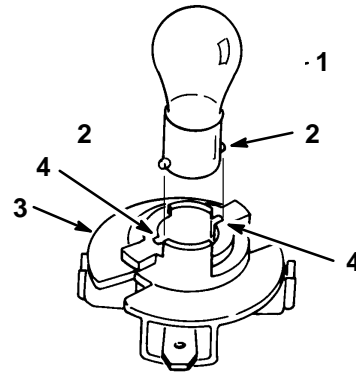

**Figure 35**
3. Rotate the bulb holder 1/4 turn counterclockwise and remove it from the reflector (Fig. 35).
2. The bulb holder has two tabs (Fig. 35). Align the tabs with the slots in the reflector, insert the bulb holder into the reflector and rotate it 1/4 turn clockwise until it stops.